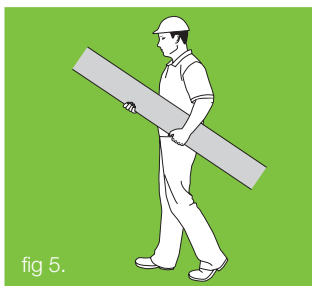

fig 5.
- If only one person is carrying the product, hold it in the middle and spread arms apart to better support the product (figure 5)